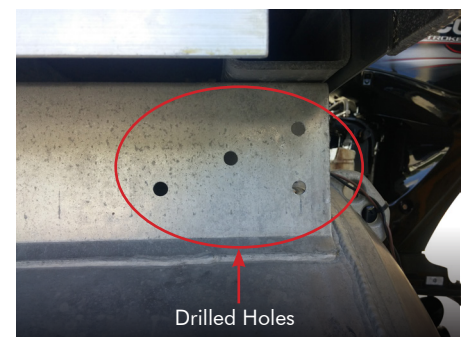

Figure 3
STEP 3 Drill holes in pontoon mounting surface using template to guide **FIG. 3**